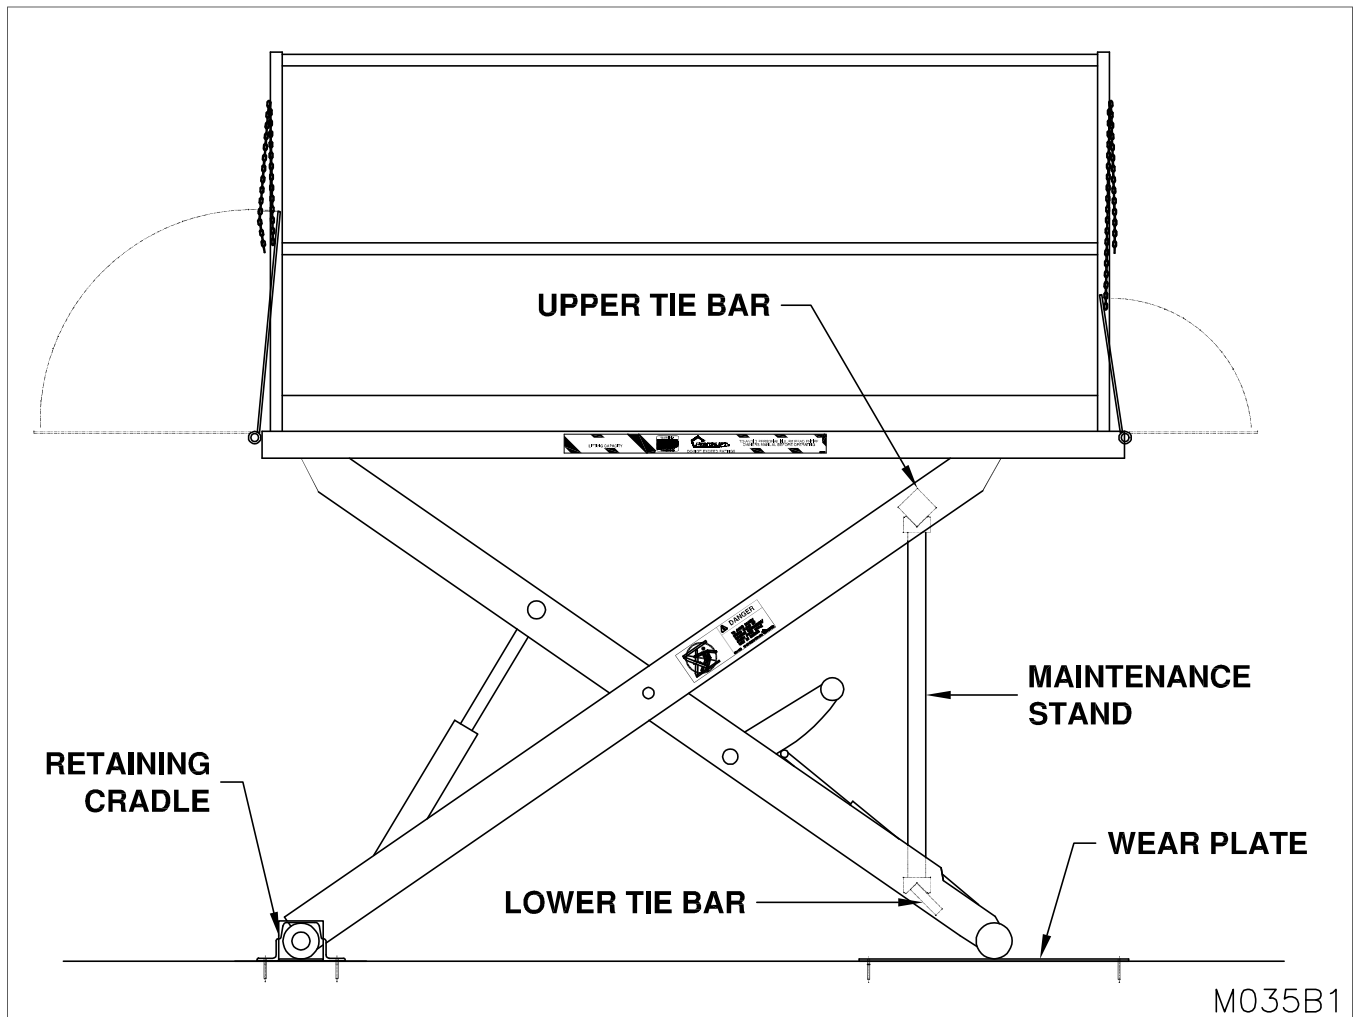

Figure 11: Supporting the Dock Lift for Maintenance
NEVER GO BENEATH THE DOCK LIFT FOR ANY REASON UNLESS THE PLATFORM AND HINGED BRIDGE(S) ARE PROPERLY SUPPORTED (SEE “Figure 11: Supporting the Dock Lift for Maintenance” on page 13) AND THE POWER IS DISCONNECTED, PROPERLY TAGGED AND LOCKED OUT. IT IS THE RESPONSIBILITY OF THE OWNER TO ENSURE THAT NO LOAD OR TRAFFIC IS PLACED ON THE PLATFORM WHILE THE MAINTENANCE STAND IS ENGAGED. THE CONSTRUCTION OF THE MAINTENANCE STAND IS INTENDED TO SUPPORT THE WEIGHT OF THE UNLOADED DOCK LIFT ONLY.